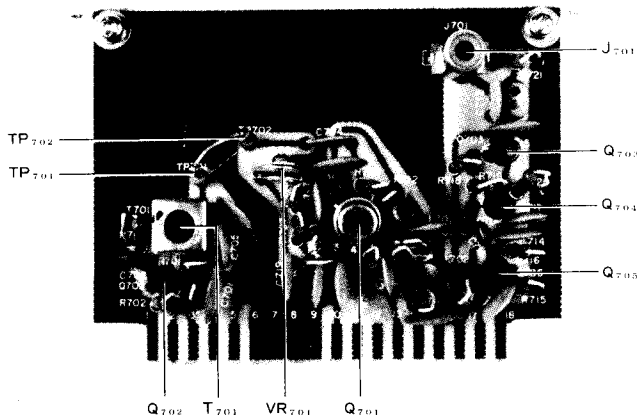

Figure 43 PREMIX Unit (PB-1439)
- Remove the jumper wire between TP₇₀₁ and TP₇₀₂ on the PREMIX unit. (TP₇₀₂ is not shown on schematic, refer to Fig 43)